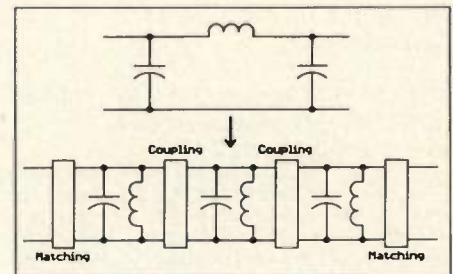

Figure 2. Lowpass filter transformed to coupled parallel resonators.
the input and output of the filter to provide proper termination of the filter when arbitrary values of inductance or capacitance are used in the filter. This is shown in Figure 2.
The configuration shown in Figure 2 is intuitively pleasing; it is easy to visualize the response of the filter being controlled by the number of resonators, the coupling between them, and the termi-
In the coupled resonator bandpass filter of Figure 2, the coupling between resonators is achieved by means of a network known as an admittance inverter. This network behaves like a quarter-wave transmission line of admittance J_0 at all frequencies (2). If an admittance of